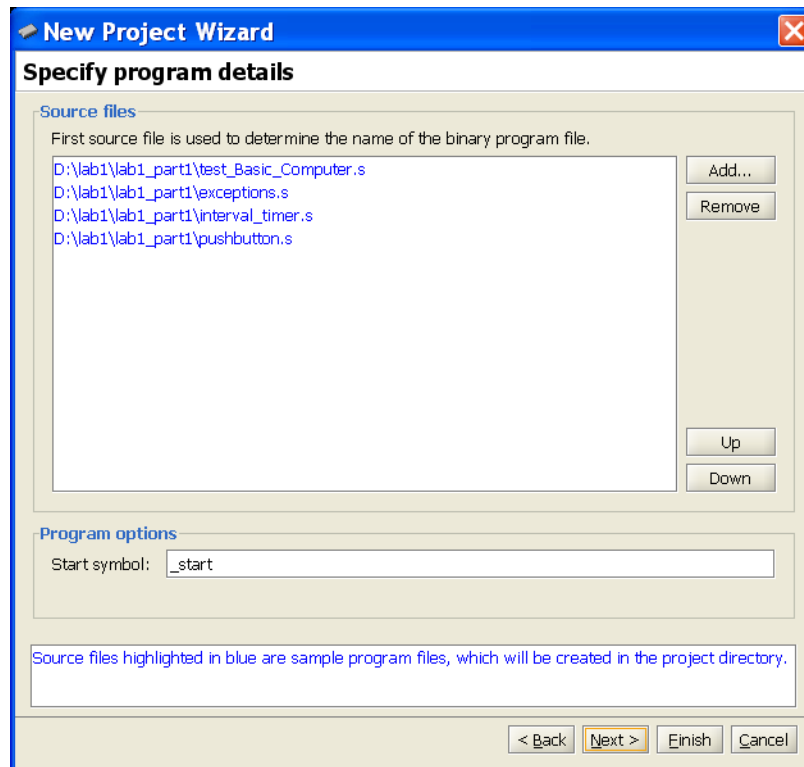
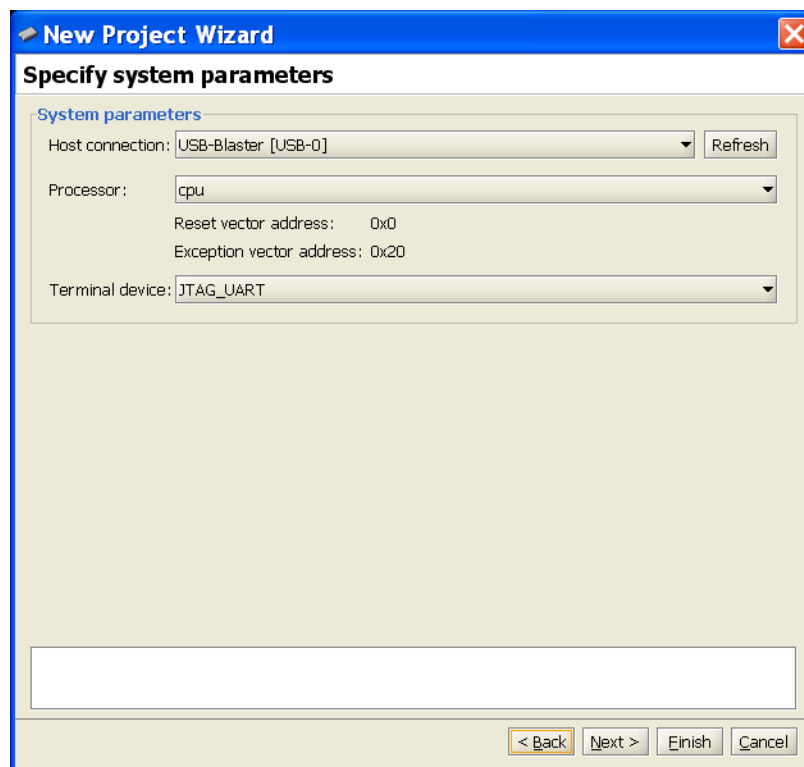
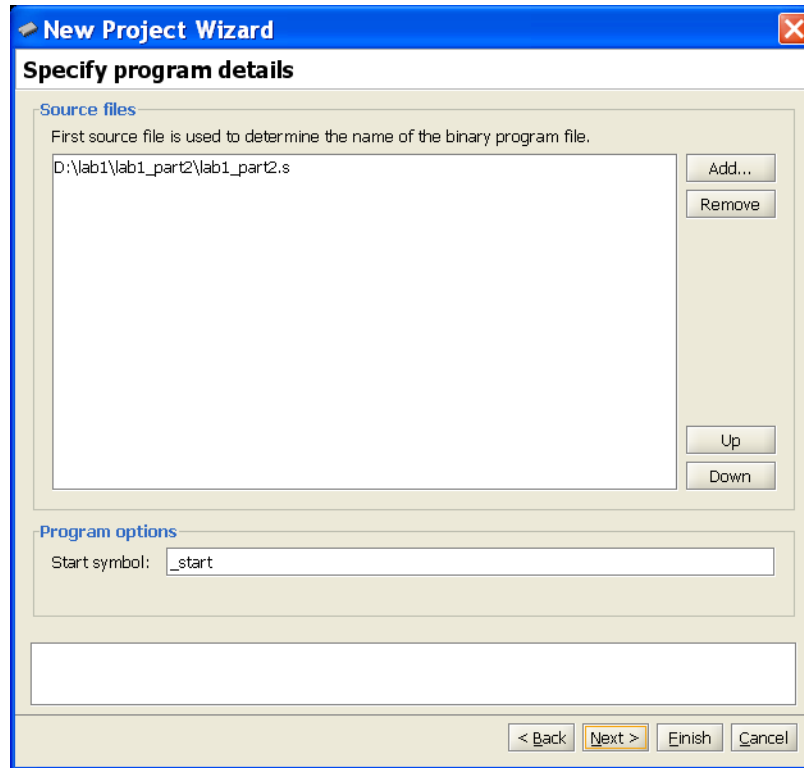

Figure 5. Source files used by the application program.
Figure 6. Specify the system parameters.
Figure 12. Select your source program.
5. The window in Figure 5 is used to specify the source file(s) that contain the application program(s). Since we have selected the *Test Basic Computer* program, the window indicates the files that are used by this program. This window also allows the user to specify the starting point in the selected application program. The default symbol is *\_start*, which is used in the selected sample program. Click **Next**.
6. The window in Figure 6 indicates some system parameters. Note that the *USB-Blaster* cable is selected to provide the connection between the DE2 board and the host computer. Click **Next**.
3. Upon reaching the window in Figure 5, you have to specify your program. Click **Add** and in the pop-up box that appears indicate the desired file name, *lab1\_part2.s*, and its location. This should lead to the image in Figure 12. Click **Next** to get the window in Figure 6. Again click **Next** to get to the window in Figure 7. Make sure that the SDRAM is selected as the memory device. Note that the *Start offset in device* will be 0, because the program in Figure 10 does not indicate that it should loaded at a location that is different from the default location 0. Click **Finish**.